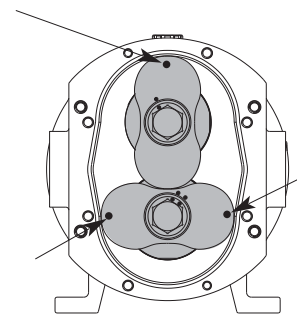

Figure 14
2. Measure the rear clearance using a standard feeler gauge set (figure 14). 12 measurements should be taken in the same rotor positions as the preceding point.